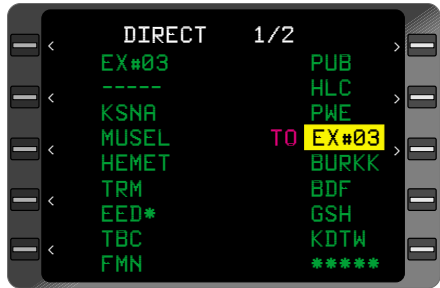

Figure 3-197
7. Waypoint Sequence - VERIFY. (Figure 3-197)